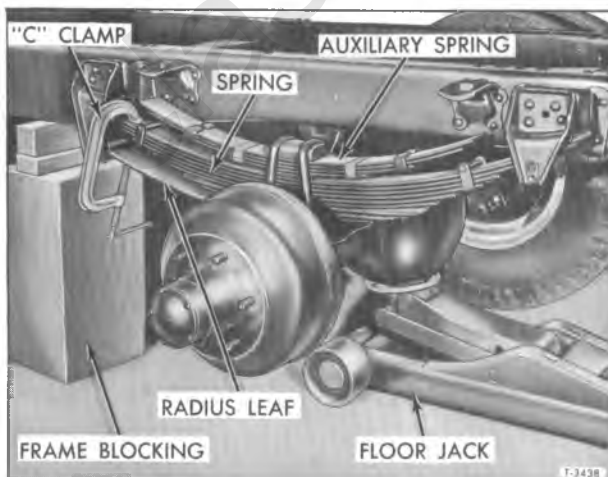

Figure 3—Using C-Clamp at Radius Leaf
3. Install a C-clamp on radius leaf as shown in figure 3, to relieve load on radius leaf eye bolt on 4000 and PS4500 Series vehicles.
Remove and replace radius leaf eye bushing using bushing remover and installer (J-21058 Tool Set) as shown in figures 3 and 4.
a C-clamp (fig. 3) until radius leaf eye and hanger holes are aligned.